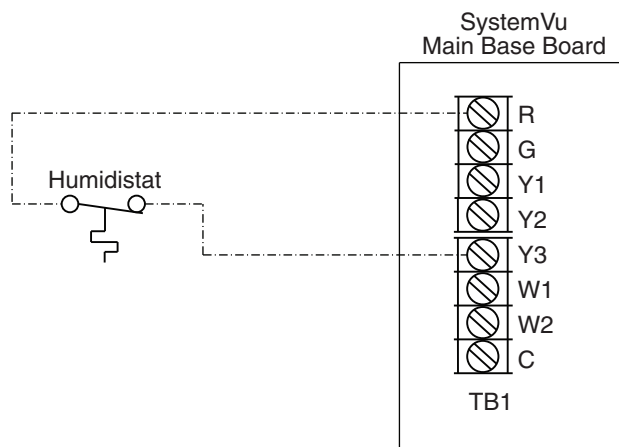

Fig. 45 — Humidistat Connections to SystemVu™ Main Base Board
3. Connect one of the leads from the 2-conductor cable to the Y3 terminal on the SystemVu MBB (Main Base Board). Connect the other lead to the R terminal on the MBB. See Fig. 45.